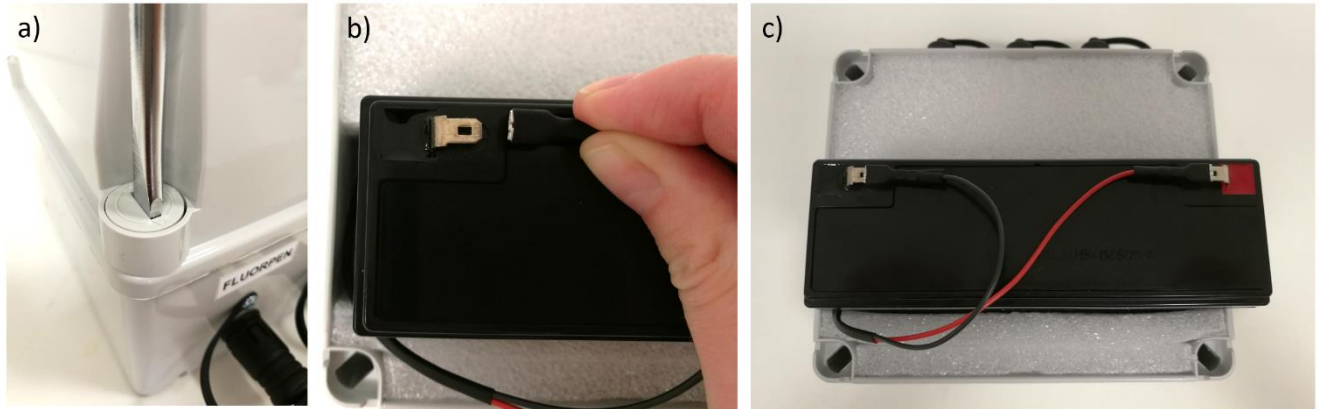

Fig. 39 Replacement of battery in a Standard Battery Pack.
1. Unscrew 4 screws (in each corner of the battery casing) and remove the battery pack cover (Fig. 39 a).
3. Place new battery inside the casing, connect it with the cables – red cable with red and black cable with black marked connector (Fig. 39 b, c). Replace the cover.